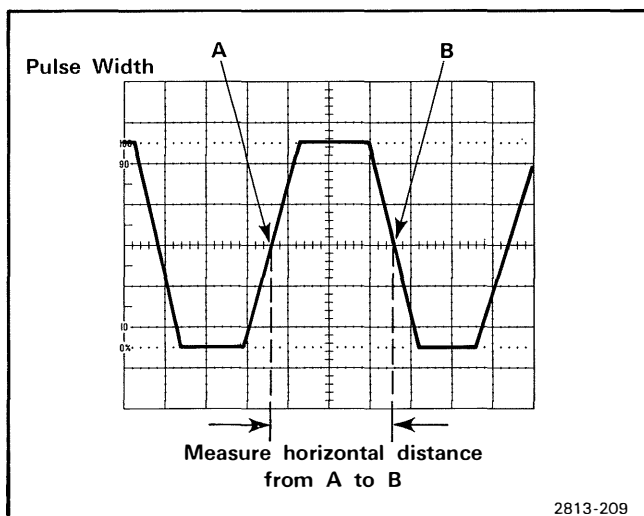

Figure 2-9. Measuring the width of a pulse.
6. Set the TIME/DIV and POSITION controls for one complete pulse displayed within the center eight graticule divisions as shown in Figure 2-9.
7. Measure the horizontal distance in divisions between the 50% amplitude points of the displayed pulse (see Fig. 2-9).
EXAMPLE: Assume that the horizontal distance between the 50% amplitude points is three divisions, and the TIME/DIV control setting is 0.1 ms (see Fig. 2-9).